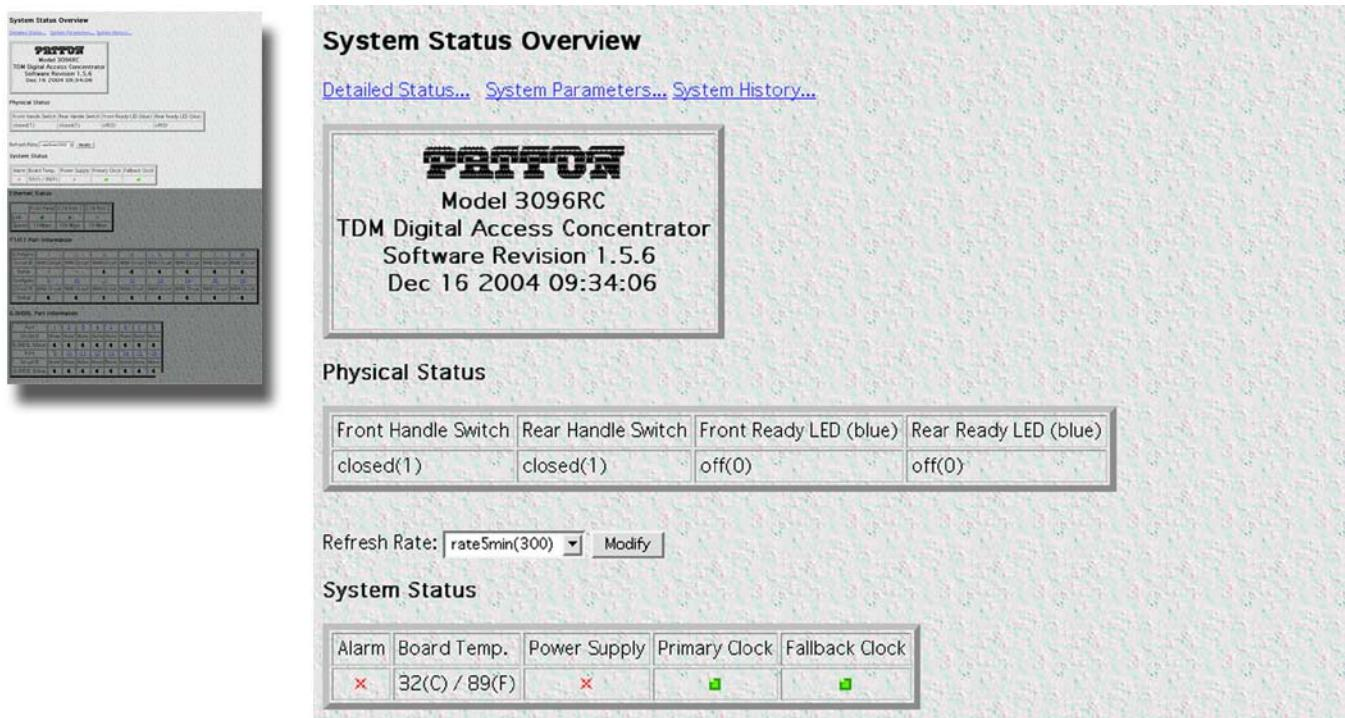
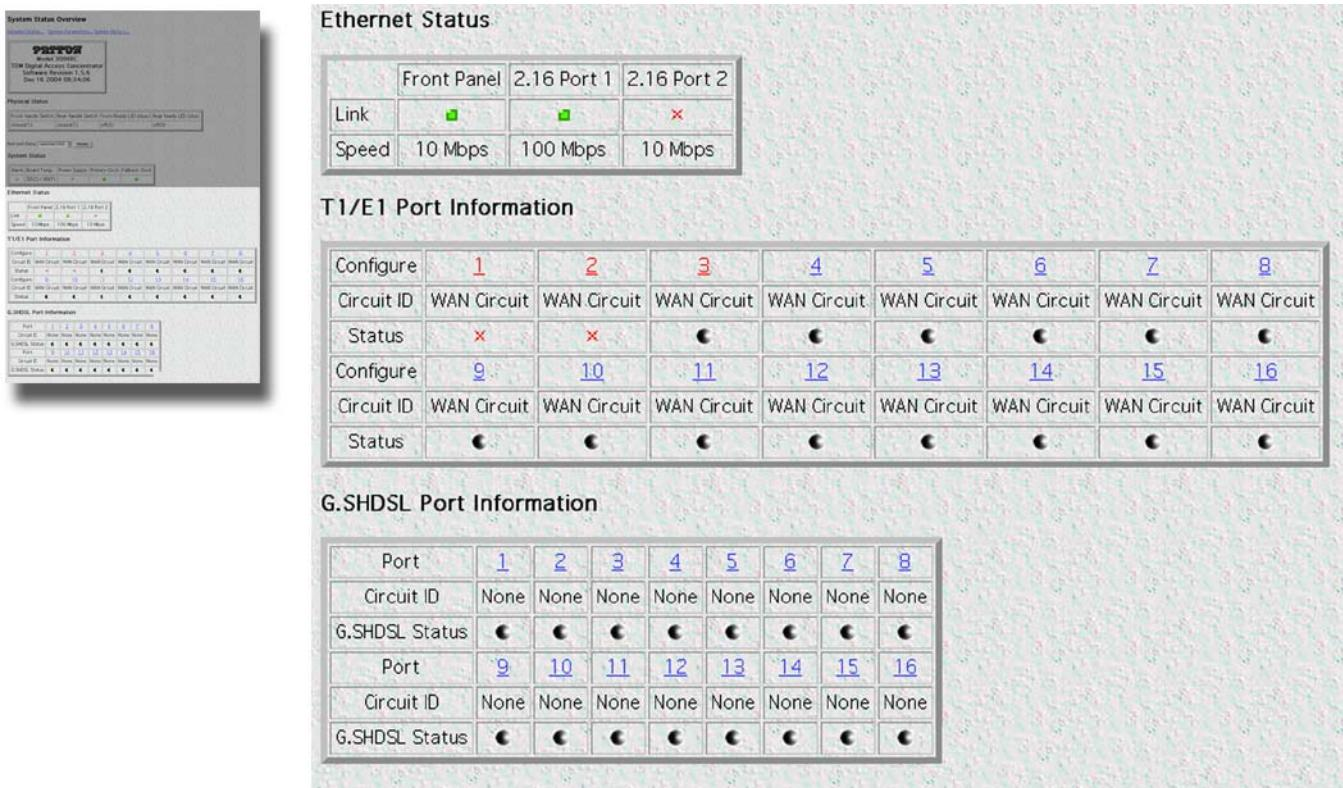

Figure 131. System Status Overview window (part 1 of 2) (Model 3096RC shown)
Figure 132. System Status Overview window (part 2 of 2) (Model 3096RC shown)
The *System Status Overview* window provides system-level information about the Model 3096RC, 3196RC, or 2616RC T-DAC. The information includes physical status and system status (see figure 131), and Ethernet status, T1/E1 port information, and G.SHDSL (Model 3096RC) or iDSL (Model 3196RC) port information, as shown in figure 132 on page 249). Additional management pages contain system status details, system parameters, and system history.
- **General product information**—Displays the product name, software release identifier, and software release timestamp (see figure 131).
- **System Status table**—Displays the state of alarms, the internal temperature of the T-DAC's—displayed in Celsius (C)/Fahrenheit (F), the current operational status of the two power supplies and the T-DAC's system clock.
- **Ethernet Status**—Displays the link status and speed of the T-DAC's Ethernet links (see figure 132).